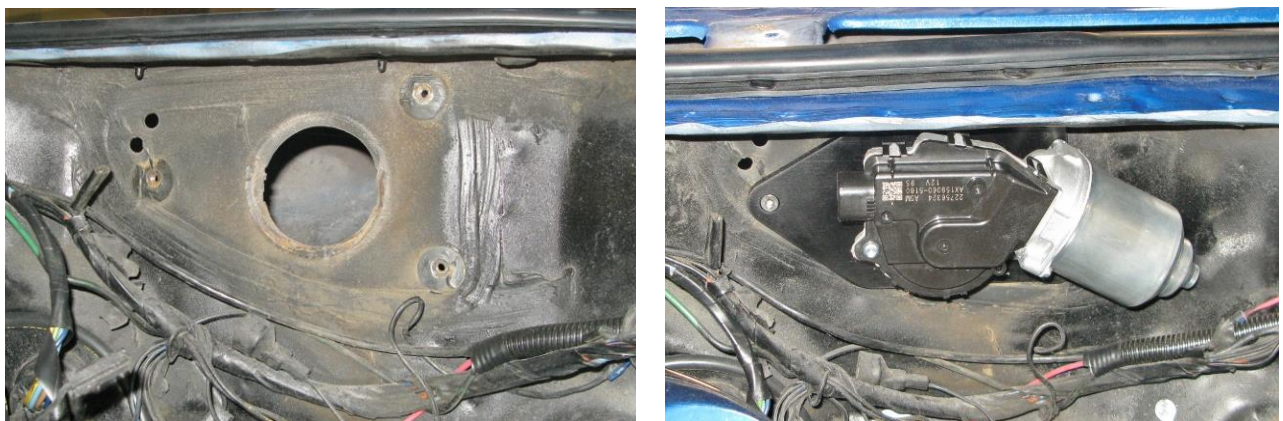

Figure 2 - Wiper Motor Orientation (1970-72 Mounting Plate Shown)
4. Mount the new wiper motor assembly to the firewall with the three supplied 10-24 x 3/4" L stainless steel Allen screws. The adapter plate will mount to the firewall using the original wiper motor weld nuts in the firewall (Figure 2). Do **NOT** attach the original wiper linkage to the new pitman arm at this time.